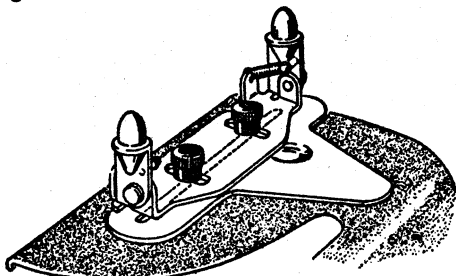

Figure 6. Register Pin Assembly
8. THE REGISTER PIN ASSEMBLY (Figure 6) may be attached to the top cover for use with perforated, open web forms when the leading edge gage is not desired. By placing the perforations of the next successive form over the pins before closing the platen, the form parts are